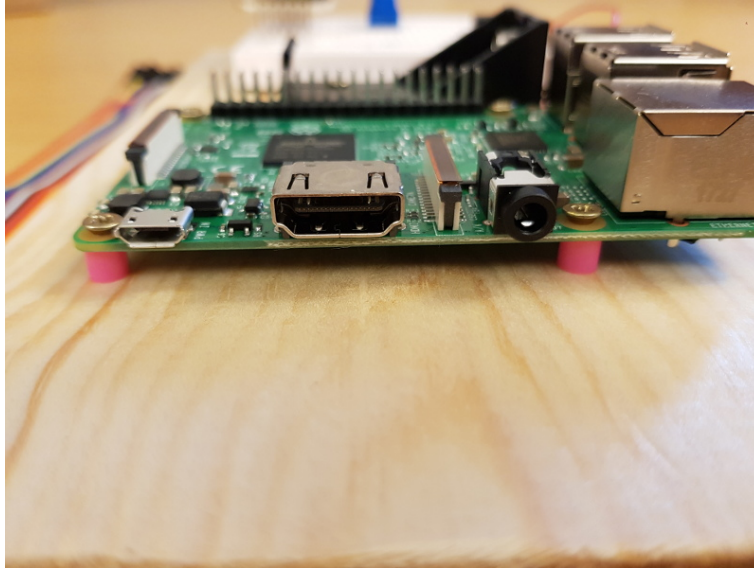

Figure 2: Using plastic beads as distances.
- (d) Fasten the Raspberry Pi beneath the battery holder using wood screws and plastic bead distances to keep it elevated above the board. See Figure 2.